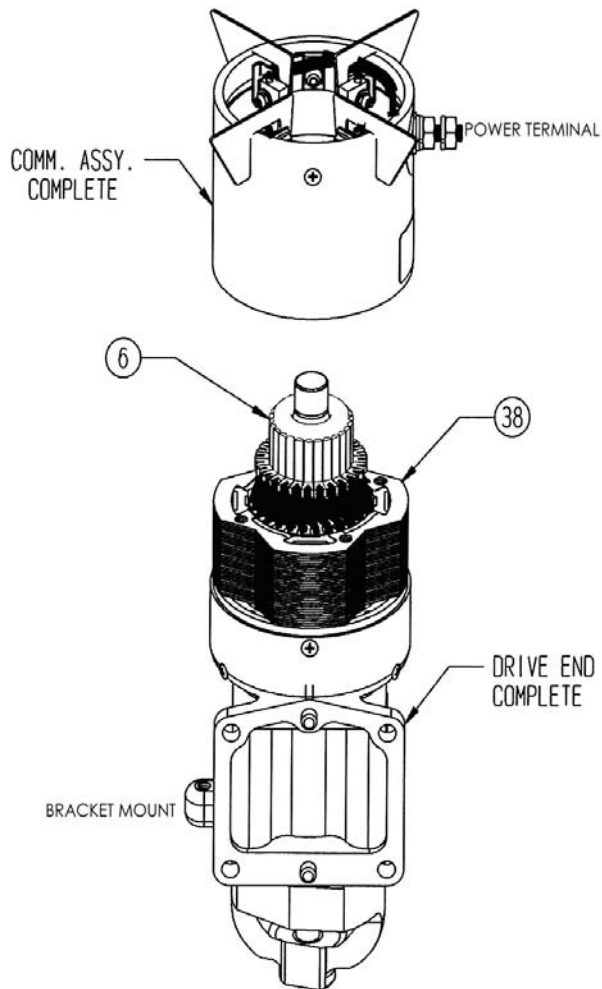

Fig 19: Comm Case Installation
9) Motor Case: With brush retainers in place, ensure the locating pin (#38) and hole inside the motor case align. Slide comm. assembly over the flux ring making sure the pin slides into locating hole. The power terminal should be opposite the bracket mount. Remove brush retainers to release Brush tension on to the commutator end of armature. (see figure 19)